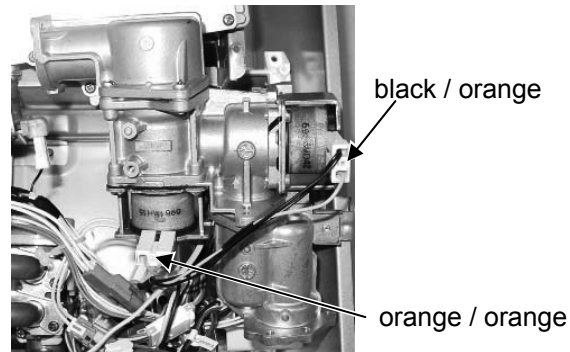

Figure 9
13. Install the gas valve and attach the wire harness to the 2 solenoids. (Figure 9)